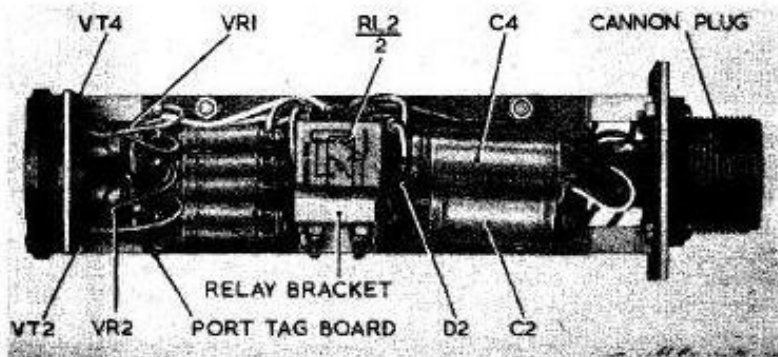

Fig. 2. Control box interior
2. The control box E.31082 comprises two basic parts (fig. 2), the chassis and the outer case. The chassis accommodates the capacitors, resistors, relays, potentiometers and transistors. The outer case is fabricated from light alloy extruded square tube and the complete assembly is attached to the aircraft structure by means of four right-angled mounting brackets.